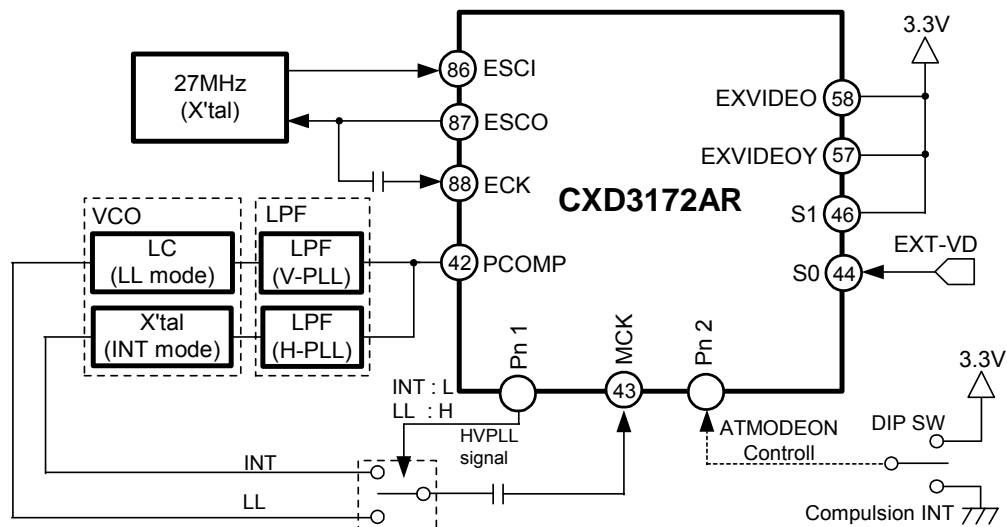

Fig 12.2-13 ECK-27MHz INT/ECK-27MHz LL Switching System Block Diagram
With this system, ECK input is always operated at 27MHz, regardless of whether INT or LL is used. A block diagram of this system is shown in **Fig 12.2-13**. ATMODEON is set to 1[h] in advance (see **Table 12.2-1**). In addition, HVPLL (see **Table 12.2-8**) is assigned to a port (Pn1 in the diagram), and the port driver is set so that the HVPLL signal is output from port Pn1.
* If you want to force the system to change to INT mode while external VD is being input, assign ATMODEON to port Pn2 and connect a DIP switch, as shown in **Fig 12.2-13**. If the connected DIP switch is set to "Low", the mode is force-changed to INT mode. Note that in such cases, SGMODE must be set to 0[h].